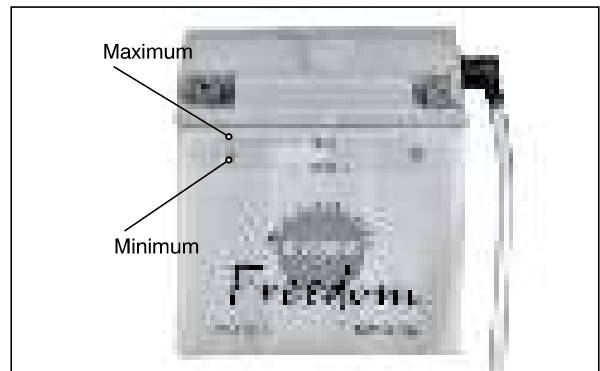

Fig. 5.92
- The electrolyte level must be between the minimum level and maximum level mark provided on the battery case. (Fig. 5.92)
- Add distilled water as necessary, to ensure the electrolyte is above the minimum level line but not above the maximum level line. (Fig. 5.92)